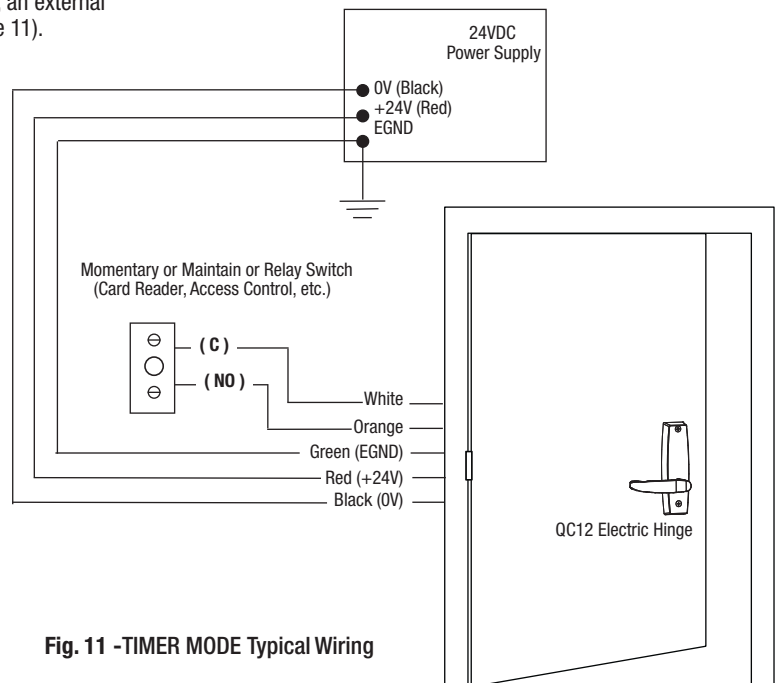

Fig. 11 -TIMER MODE Typical Wiring
2. If more than 20 seconds timed delay is necessary, an external timer delay relay is required (not provided). (Figure 11).